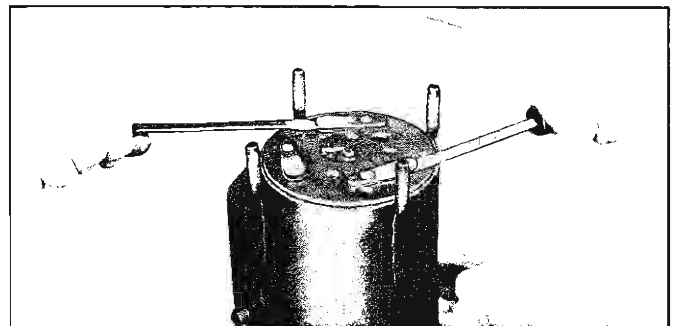

Fig. 36—Removing Rear Discharge Valve Plate
7. With two screwdrivers, carefully pry up on the rear discharge valve plate assembly (fig. 36). Check for broken reeds or damaged seats and replace entire assembly if such is found.